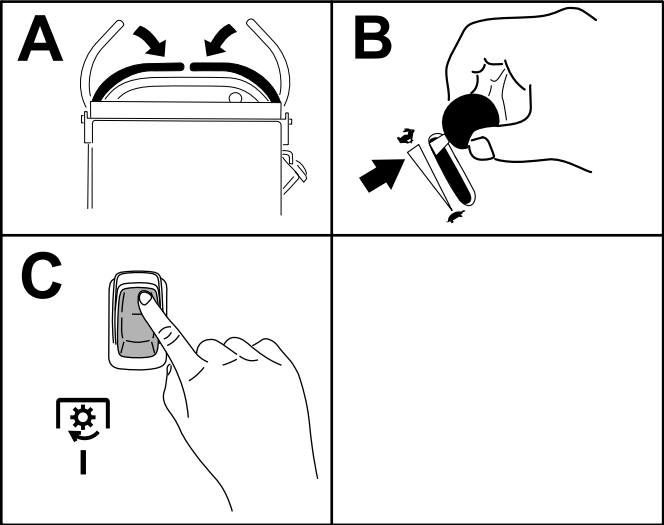

Figure 9
**Note:** If you disengage the mower blades by releasing the motion-control levers, you can engage the blades again by pressing the ON position of the switch (Figure 9) without pressing the OFF position first.